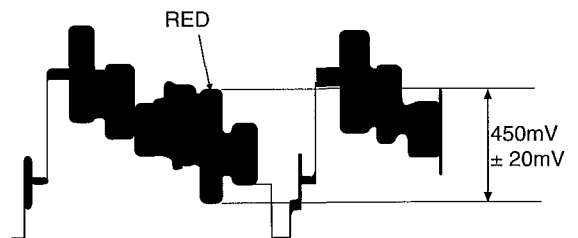

Fig. 2-3
(4) Chroma Gain Adjustment (Figs. 2-3, 2-4)
Press the [Ctrl] key and hold it down, then press the **U** and **D** keys so the red level is 450mV ± 20mVp-p. (Fig. 2-3)